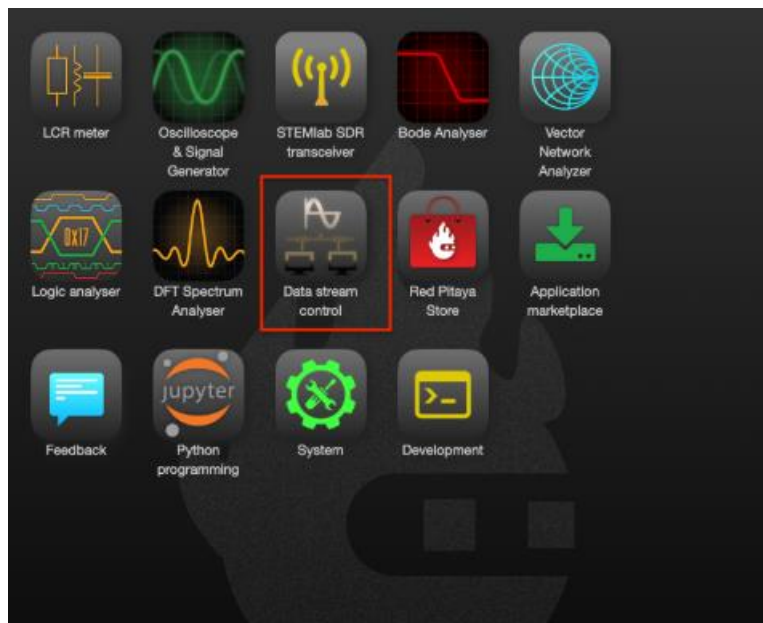

Figure 2: Red Pitaya Interface Page
- b. The resulting screen should pop up if connection is true shown in Figure 2 below: